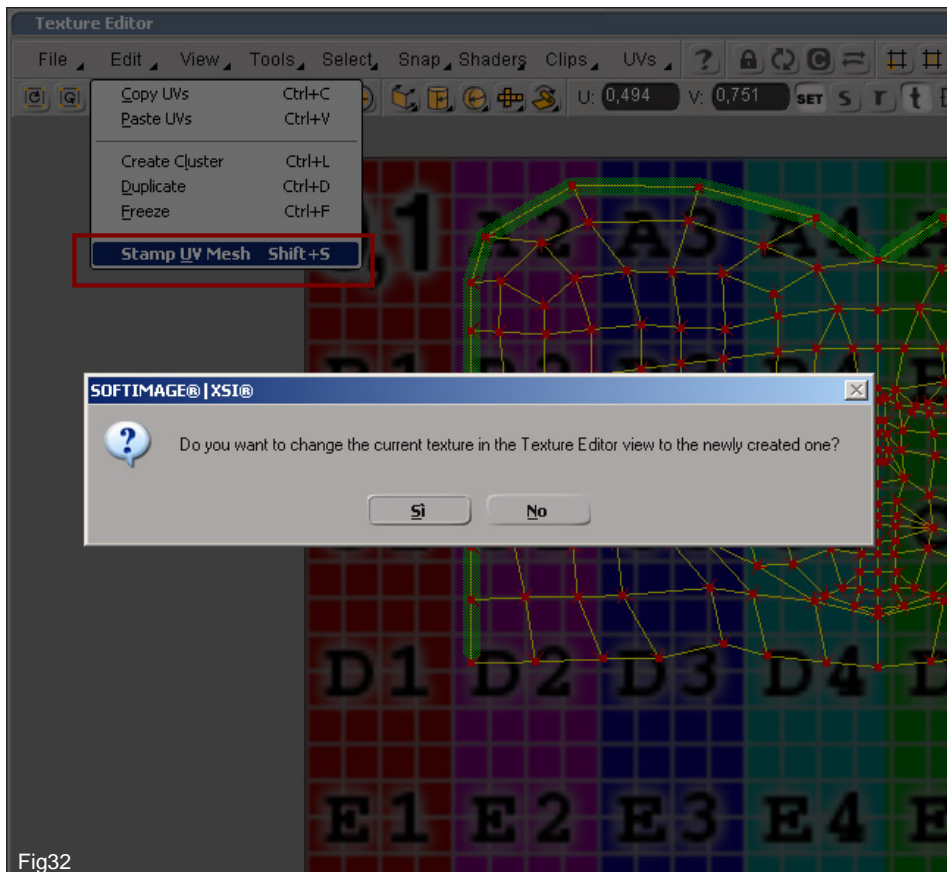

Fig32
31. As shown in Fig32, the Stamp UV-Mesh command will ask you if you want to change the current clip shown in the Texture Editor with the newly created texture image with the coordinates' template. If you answer "Yes", it will be updated and shown in the Texture Editor as a clip.
32. Don't forget that the Stamp UV Mesh just stamps the template along with the clip currently shown in the Texture Editor. This means that if you are currently seeing your coordinates over the nolcon\_pic1 texture image, this will be shown in your new texture file. To avoid this, just create a plain new texture file with a black background, assign it to the material and use that as a background for your coordinates template, like shown in Fig32.